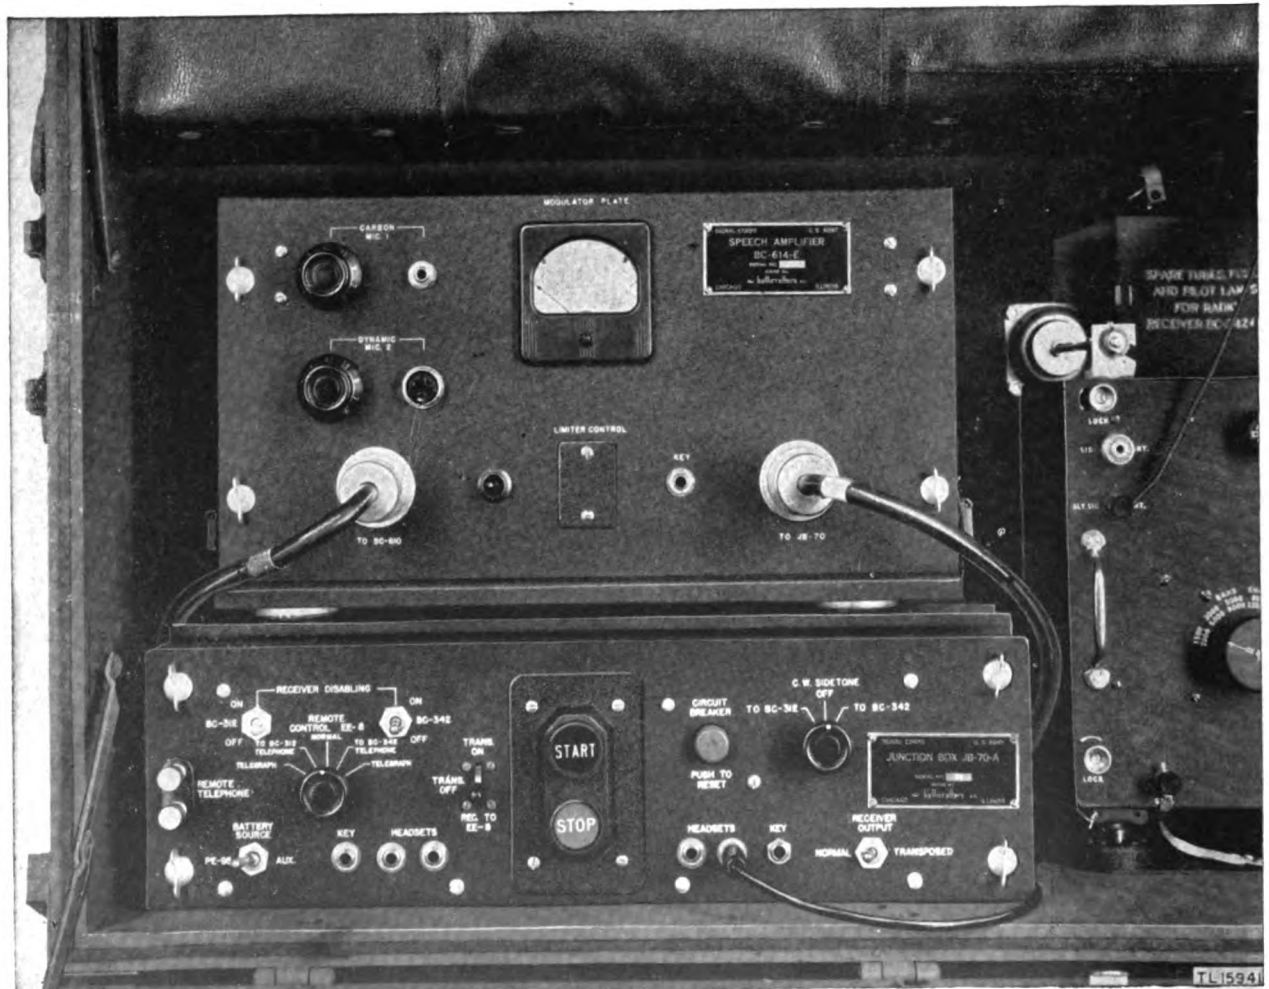

Figure 8. Speech Amplifier BC-614-E and Junction Box JB-70-A in Chest CH-120-A — front view.
8. Speech Amplifier BC-614-E (fig. 8)
b. Junction Box JB-70-A serves as a control center for the station. The front panel controls (fig. 8) provide for:
- (1) Starting or stopping Power Unit PE-95-().
- (2) Resetting the circuit breaker in the power mains.
- (3) Selection of 12-volt battery source.
- (4) Control of transmission and reception.
- (5) Remote control operation.
- (6) Choice of manual or automatic receiver disabling.
- (7) Choice of receiver output to headset.
- (8) A sidetone signal to monitor transmission during c-w operation.